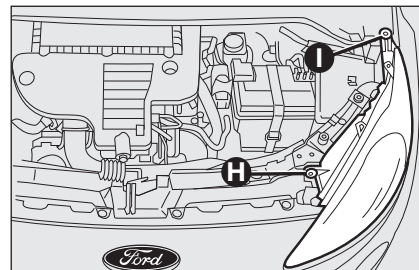

fig. 14
- ☐ after raising the bonnet, unscrew bolts **H** and **I** located at the points shown in **fig. 14**;